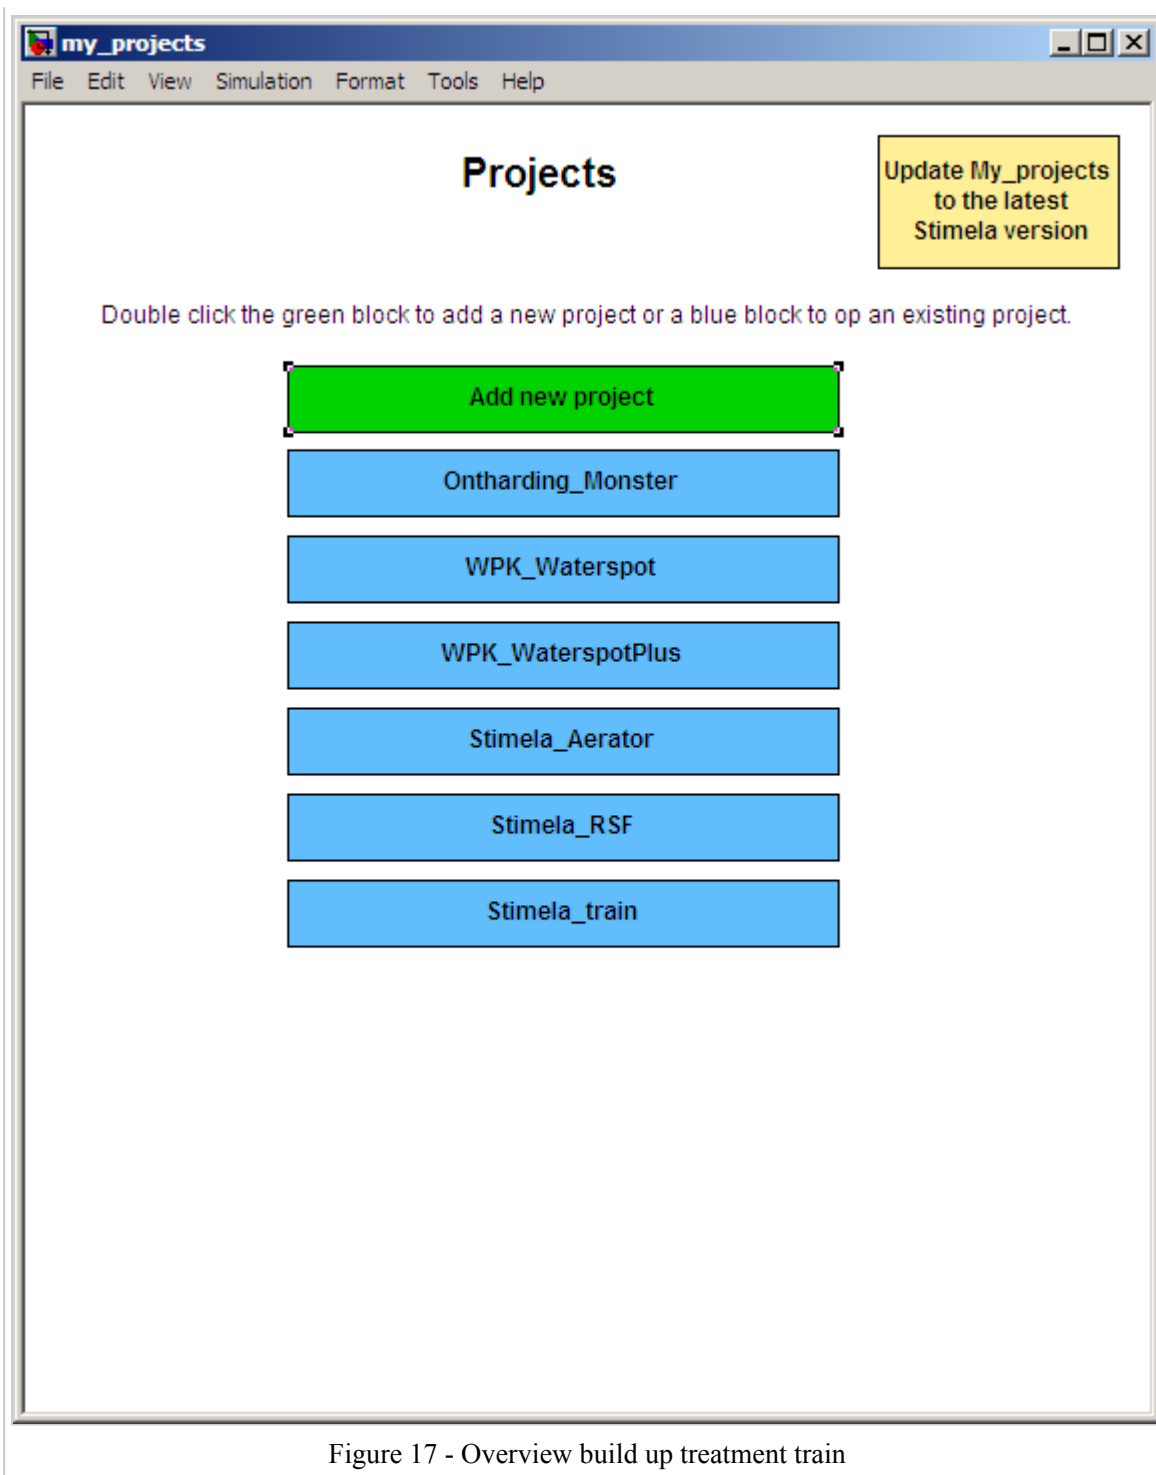

Figure 17 - Overview build up treatment train
- After having created all single treatment steps (see Figure 17) a new project should be chosen, which eventually combines all single treatment steps into a treatment train.